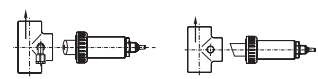

Fig. 20: Installation in flow assemblies
- Two sensor orientations are possible for horizontal installation (fig. 20):